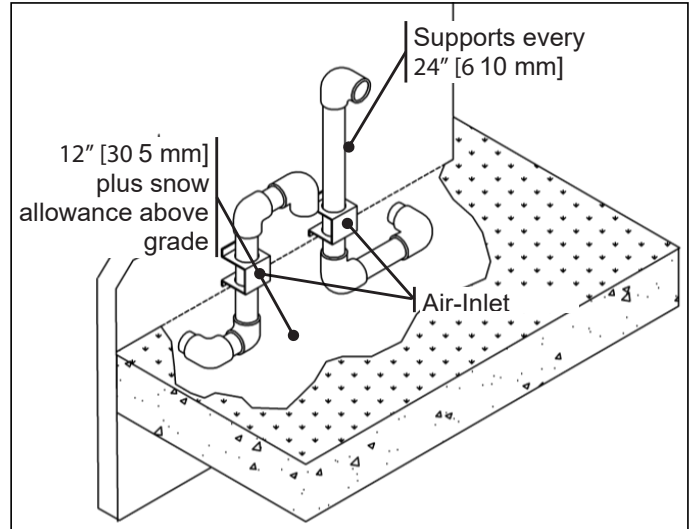

Figure 32 - Venting Below Grade
- 1. Excavate the site to a point where the pipes are to exit as shown in Figure 32.